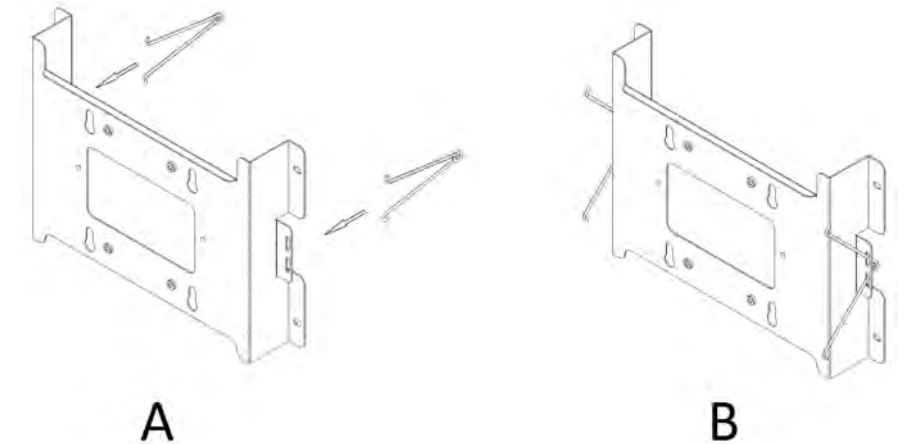

Figure 5 - Installation of Torsion Spring
Step 5 - Install the two torsion springs by: **A** pinching the tips together, and **B** inserting the tips into the rectangular openings on each end of the mounting bracket (Figure 5).